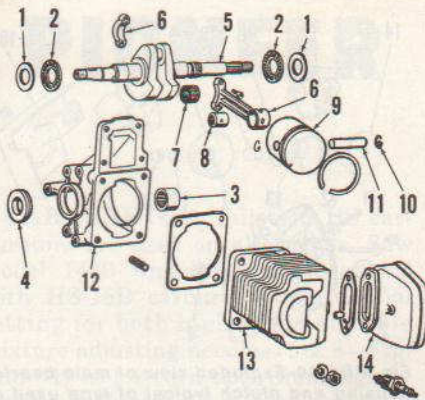
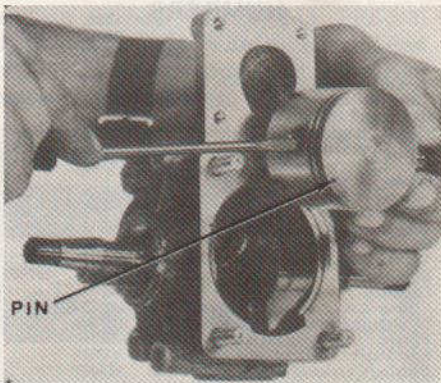
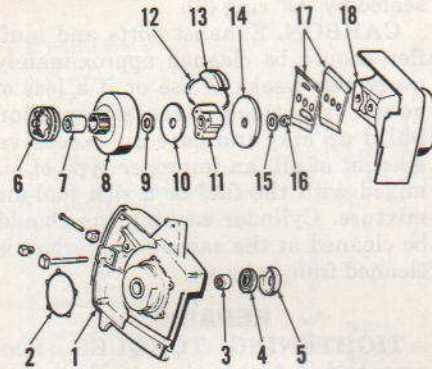

Fig. PR4-5—Exploded view of the crankshaft, crankcase and cylinder typical of all models.
Fig. PR4-6—Ring locating pin must be away from exhaust port side of cylinder as shown, when installing the piston to the connecting rod.
Fig. PR4-11—Exploded view of clutch used on models with automatic chain oiler. Parts shown in Fig. PR4-4 are located in main bearing housing (1) shown above.
**CYLINDER, PISTON, RINGS AND PIN.** Compression pressure at cranking speed should be approximately 130-140 PSI with engine cold. Cylinder and cylinder head is one piece and is attached to the crankcase with four stud nuts. Piston pin can be withdrawn after removing retaining clips (10—Fig. PR4-5). Cylinder bore diameter is smaller for 1110 model than others. The cylinder bore of most models is chrome plated and cylinder should be renewed if plating is worn away exposing the soft base metal. The following repair specifications are in inches.
Piston rings on most models are pinned to prevent rotation in the grooves. Make sure that ring locating pin (Fig. PR4-6) is located on the magneto side. The opening in the piston pin retaining clips (10—Fig. PR4-5) should be toward the closed end of piston.
The crankcase (12—Fig. PR4-5) should be heated before installing new main bearing (3). Main bearing housing (1—Fig. PR4-10 or Fig. PR4-11) should be heated before installing main bearing (3). Lip of seals (4) should be toward the bearings (3). Lip of magneto seal (4—Fig. PR4-5) should be toward inside. Crankshaft needle thrust bearings (2) and washers (1) should limit crankshaft end play.
**CLUTCH.** Different types of clutches have been used (Fig. PR4-10 and Fig. PR4-11). Bearing (7) should be lubricated with a small amount of Mobil Sovarex No. 1W or Shell Alvania No. 2 lubricant before installing clutch drum and bearing on crankshaft. Ends of garter spring (12) should be connected together and located at the middle of a clutch shoe. Do not have the spring connection between clutch shoes.